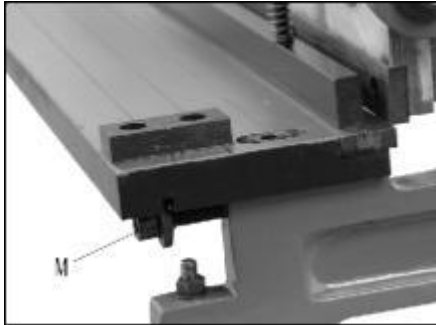

Figure 8
3. Rotate adjustment screws (M, Figure 8) to shift table and change the gap between blades. **Do not allow the blades too verlap.**